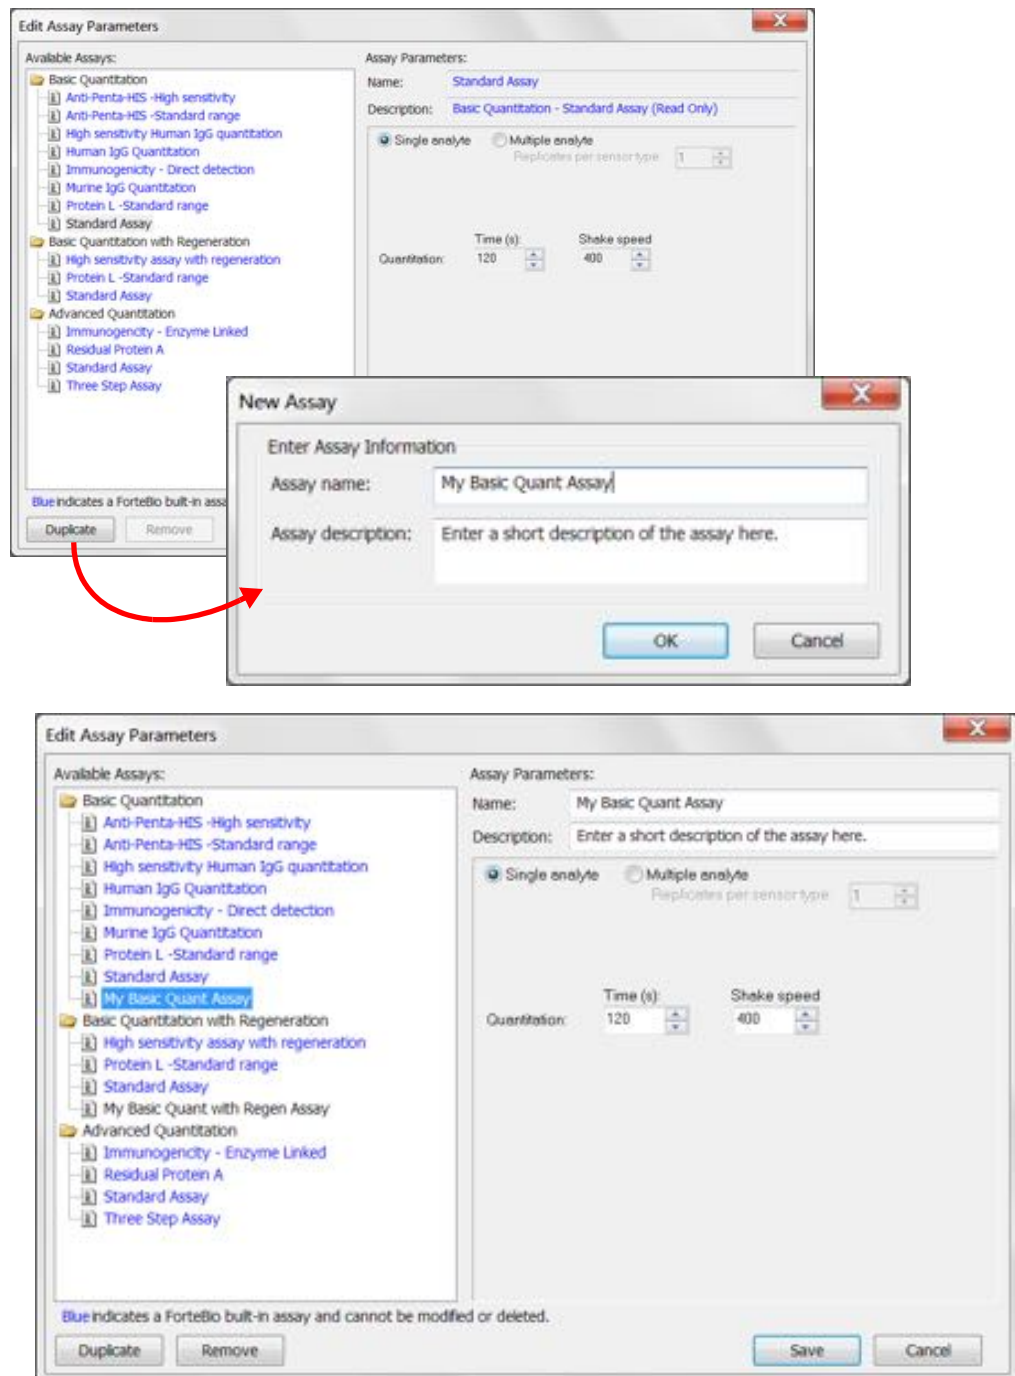

Figure 6-63: Defining a New Assay
4. In the **New Assay** dialog box (see Figure 6-63 top), enter an **Assay name**.
The new assay appears in the directory tree of available assays (see Figure 6-63 bottom).
1. In the **Edit Assay Parameters** dialog box, confirm that the new assay is selected in **Available Assays** (see Figure 6-63 bottom).